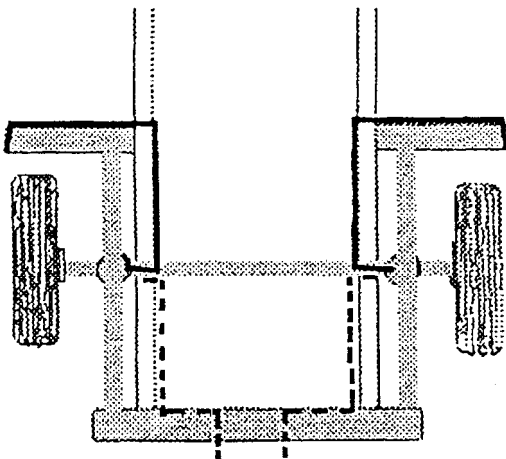

FIGURE 3
6. Select a location for the inflation valves in the rocker sills or rear floor pan ensuring that each valve will be protected and accessible with an air hose (Figure 3).